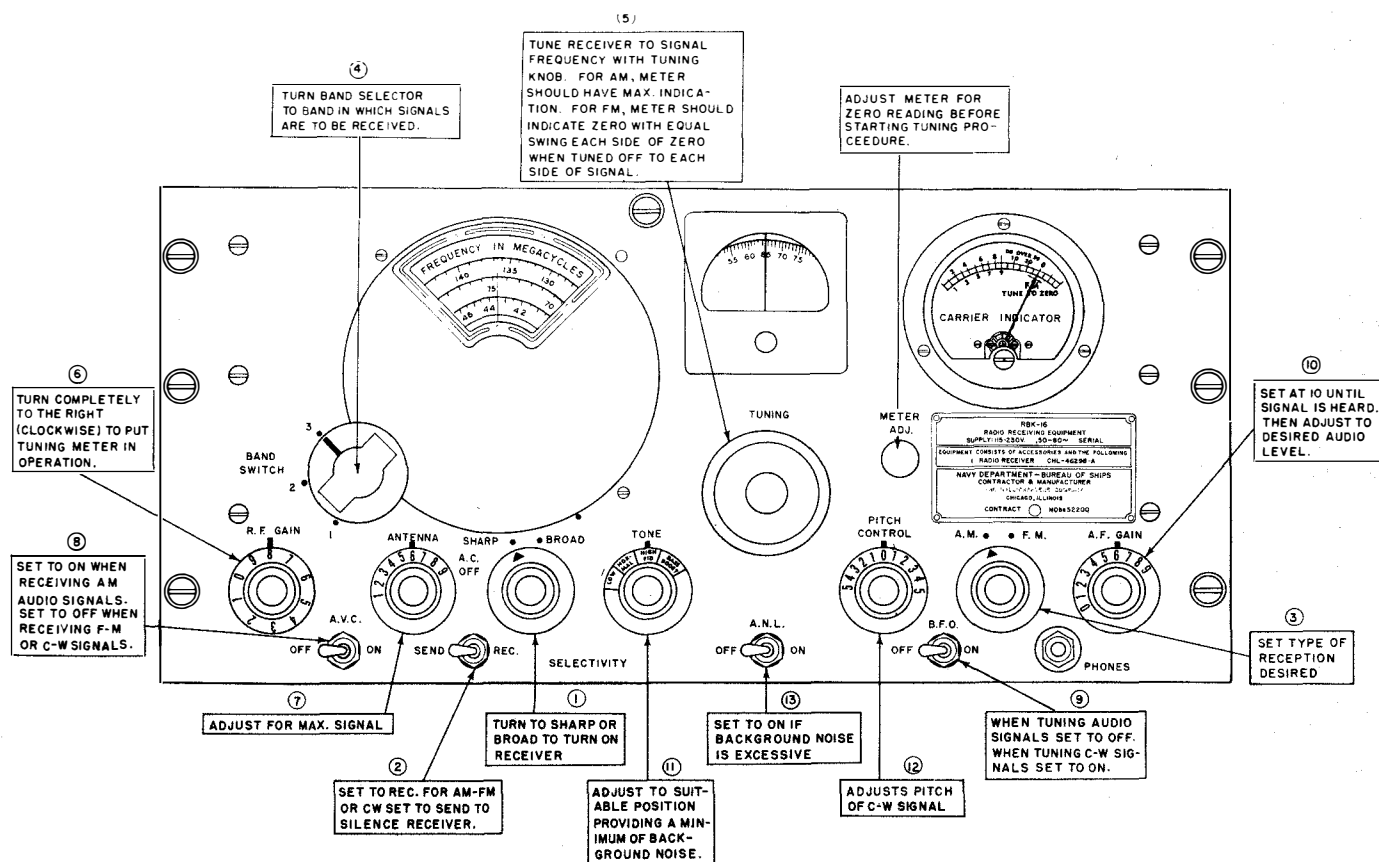

Figure 4-2. Radio Receiving Equipment Navy Model RBK-16, Tuning Adjustments.
(4) With a screw driver set the METER ADJ. control for the zero reading on the "S" meter scale of the tuning meter.
(5) Remove the antenna and coil terminal jumpers and replace the antenna lead and the meter adjustment cover button. The adjustment is completed.
b. Refer to figure 4-2 for tuning adjustment sequence.